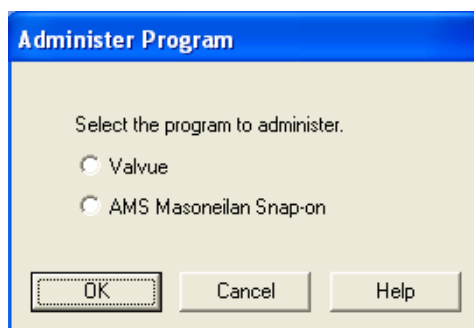

Figure 6 ValVue Administration Program Startup
1. Select **Start > All Programs > Dresser > ValVue > ValVue Tools > ValVue Administration** and Figure 6 appears.